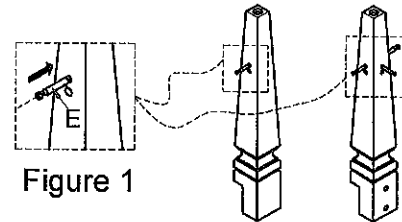

Figure 1
1. Turn Table Top on to a clean, soft surface. Attach Cam Bolt (E) on all the legs. (See Figure 1).
1. Turn Ottoman on to a clean, soft surface. Attach legs on the Ottoman by using Flat washer (C), Lock Washer (B), Bolt (A) with Allen Key (D) .(See Figure 1). Tighten all bolts with Allen Key (D).